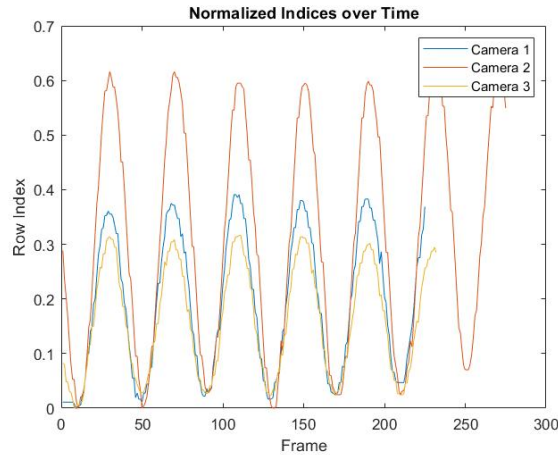

Figure 1: Alignment of the 3 Cameras in Test 1
- (a) First, I need to adjust the indices to align the data from all three cameras. I want to normalize the indexing matrix for all three cameras to get the maximum and minimum values in the data to occur at the same time for all three cameras. In figure 1, you can see the normalized indices from test 1 and how the peaks and valleys in the data occur at the same time.